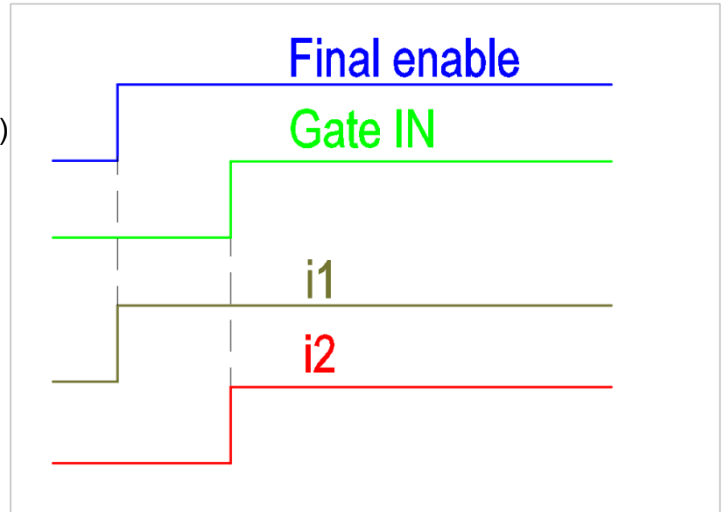

Fig. 17
- Set signal "external enable" (X6 pin 32) to high. DPD output is final enabled (see Fig.17). i_1 according Current_Set_Point_1, i_2 is zero.